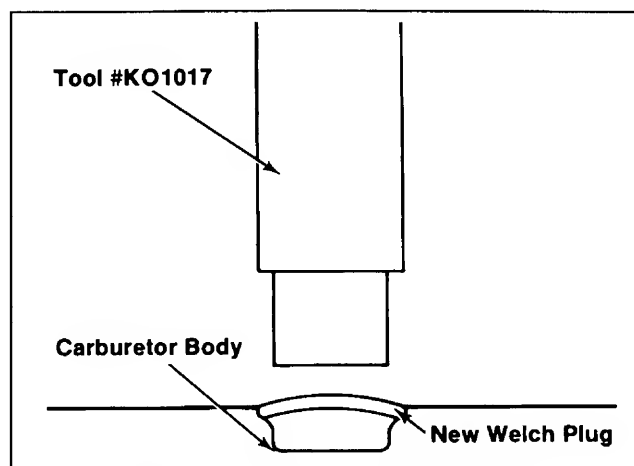

Figure 5-8. Installing Welch Plugs.
3. Use the end of the tool that is about the same size as the plug and **flatten** the plug. Do not force the plug below the surface of the cavity. See Figure 5-8.